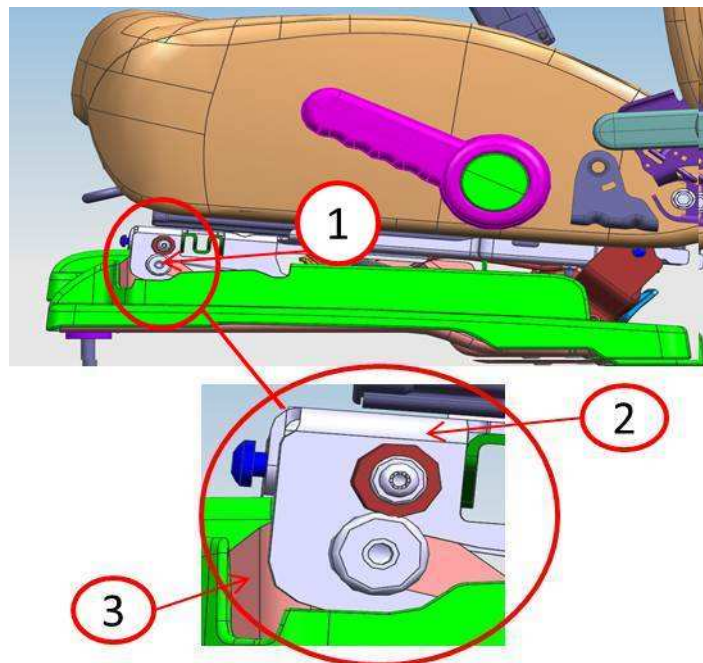

Fig. 2
3. Locate and remove all the bolts and bushings on both driver and passenger side (Fig. 2.) There are bolts on inboard and outboard sides.